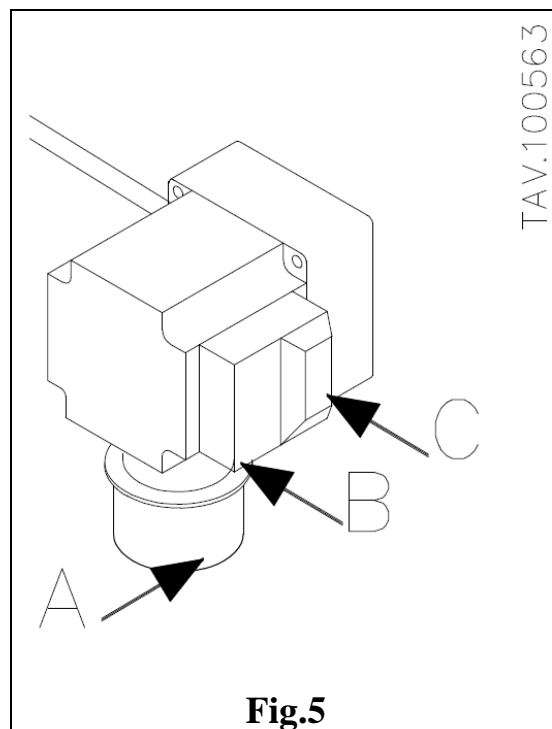

Fig.5
(In order to better understand, please check figure 5 and the electric diagram in figure 13b).
1. Connect the fixed plug of the machine's switch to the specially-conceived 220-V, 50-Hz outlet (part. A in figure 5) with an external electric cable. (The a.m. outlet is part of a special box also containing the general switch). The plug has to be connected when the general switch is in the **OPEN** position.
2. In order to start up the machine, push the green button of the general switch (part. B, in green, in figure 5) situated onto the machine and operate for a while. The a.m. switch is equipped with a minimum voltage relay ; consequently, it will only close if the correct voltage is supplied, with the plug correctly positioned, the general switch in the **CLOSE** position with properly working fuses.
In case you wish to stop the machine, just push the red button (part. C, in red, in figure 5) of the command panel.